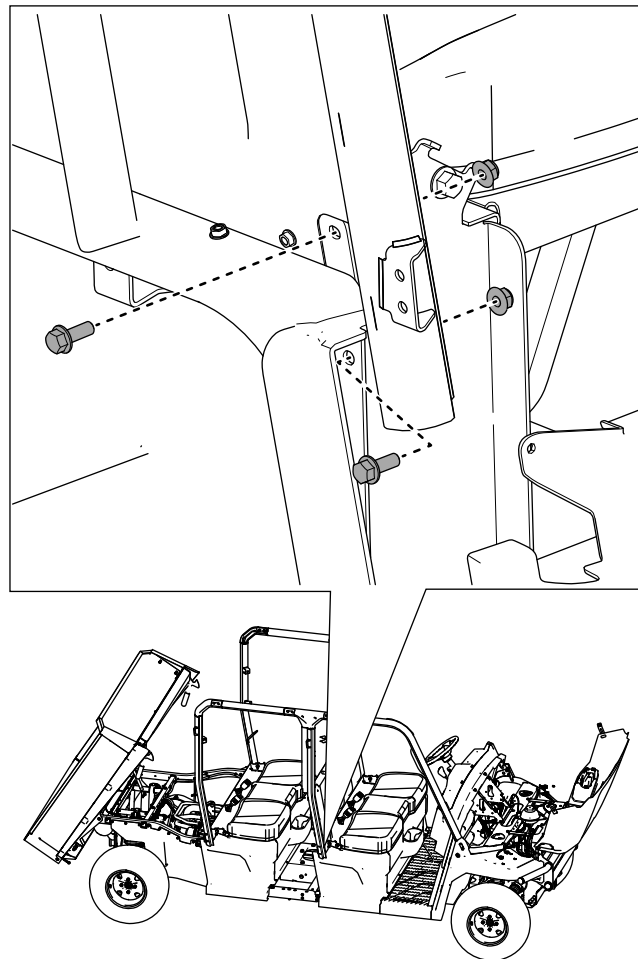

Figure 47
13. Loosely secure the bottom of the right, middle roll bar assembly to the seat base assembly using 2 flange-head bolts ($\frac{3}{8}$ x 1 inch) 2 locknuts ($\frac{3}{8}$ inch) as shown in Figure 47.